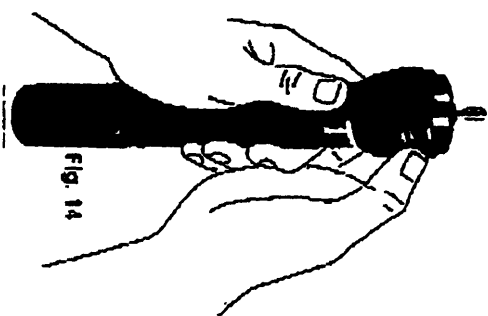

Fig. 14
2. Holding the barrel in one hand (Fig. 14), gently lower the head till it touches the recharge module (two silver rings). This reveals the lamp for replacement.